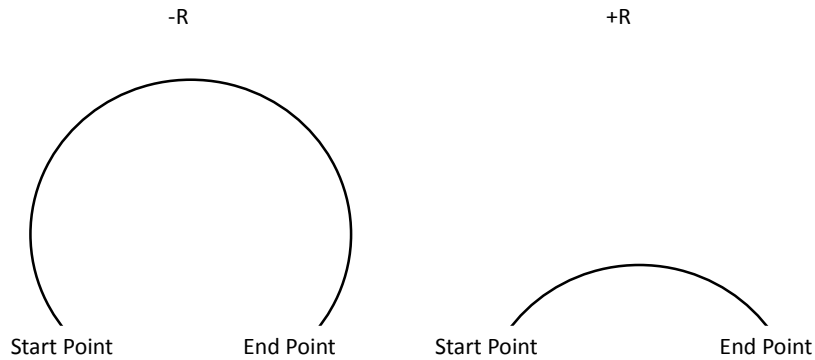

Figure 2-2: Difference between negative and positive values for R
- To specify the radius, use R and input the actual radius of the desired arc, see Format 2. When an arc is created knowing only start and end points and a radius there are two possible solutions, an arc with a sweep less than 180° and one with sweep greater than 180°. The sign of the radius value, positive or negative, determines which arc will be cut, see figure 2-2. A positive value for R cuts an arc with sweep less than 180°. A negative value for R cuts an arc with sweep greater than 180°.